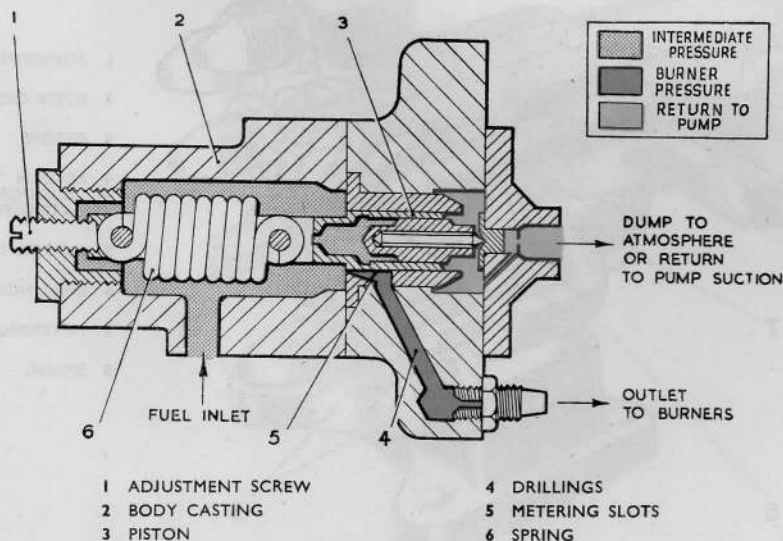

Fig. 2. Schematic diagram of flow distributor
5. With the engine stationary the piston is at the bottom of its stroke and the metering slots are completely blanked off (fig. 2). When the engine is started fuel is fed into the flow distributor body casting and when the pressure is built up to a sufficient pressure (of the order of 100 lb. per sq. in.) the piston moves to uncover the metering slots, thereby allowing fuel to be passed to each individual burner via the radial drillings.